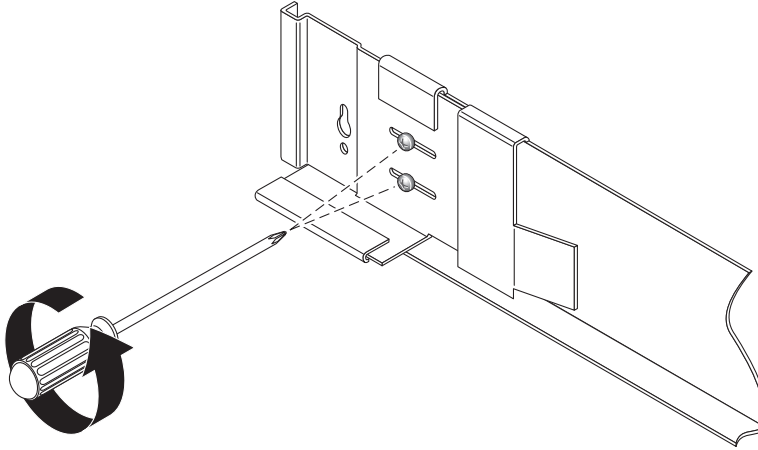

FIGURE 2-7 Loosening the Rail Screws to Adjust the Rail Length
1. Using the #2 Phillips screwdriver, loosen the side-rail screws and adjust each rail to its maximum length (FIGURE 2-7).